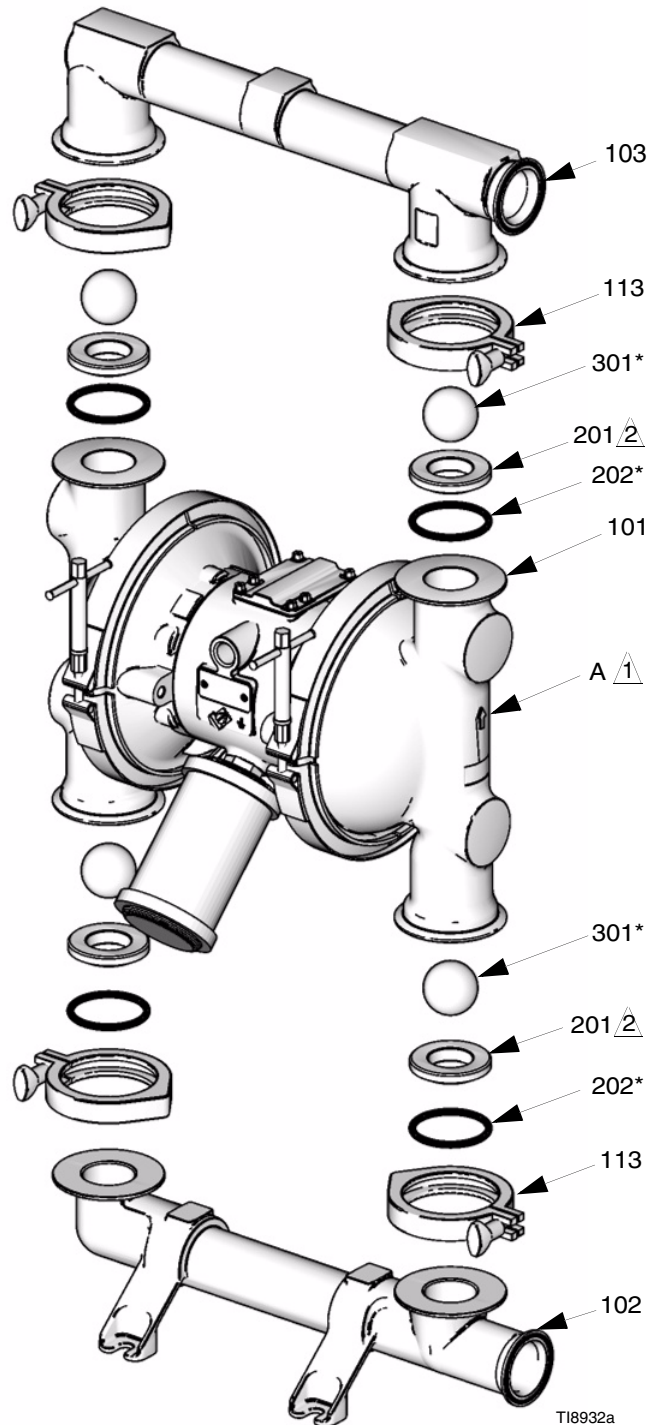

FIG. 9
3. Remove the clamps (106) holding the outlet manifold (103) to the fluid covers (101). See FIG. 9.
4. Remove the o-rings (202), seats (201), and balls (301) from the manifold (103).
5. Turn the pump over and remove the inlet manifold (102). Remove the o-rings (202), seats (201), and balls (301) from the fluid covers (101).
2. Reassemble in the reverse order, following all notes in FIG. 9. Be sure the ball checks and manifolds are assembled **exactly** as shown. The arrows (A) on the